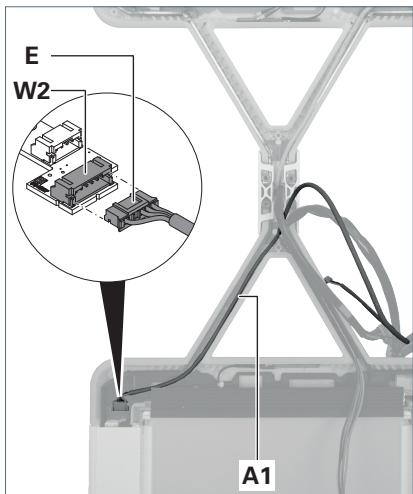

Fig. 11: Connecting the control cable.
- ▶ Lay the control cable **A1** of the stranded wire set into the supporting arm of the luminaire head 2, see Fig. 11.